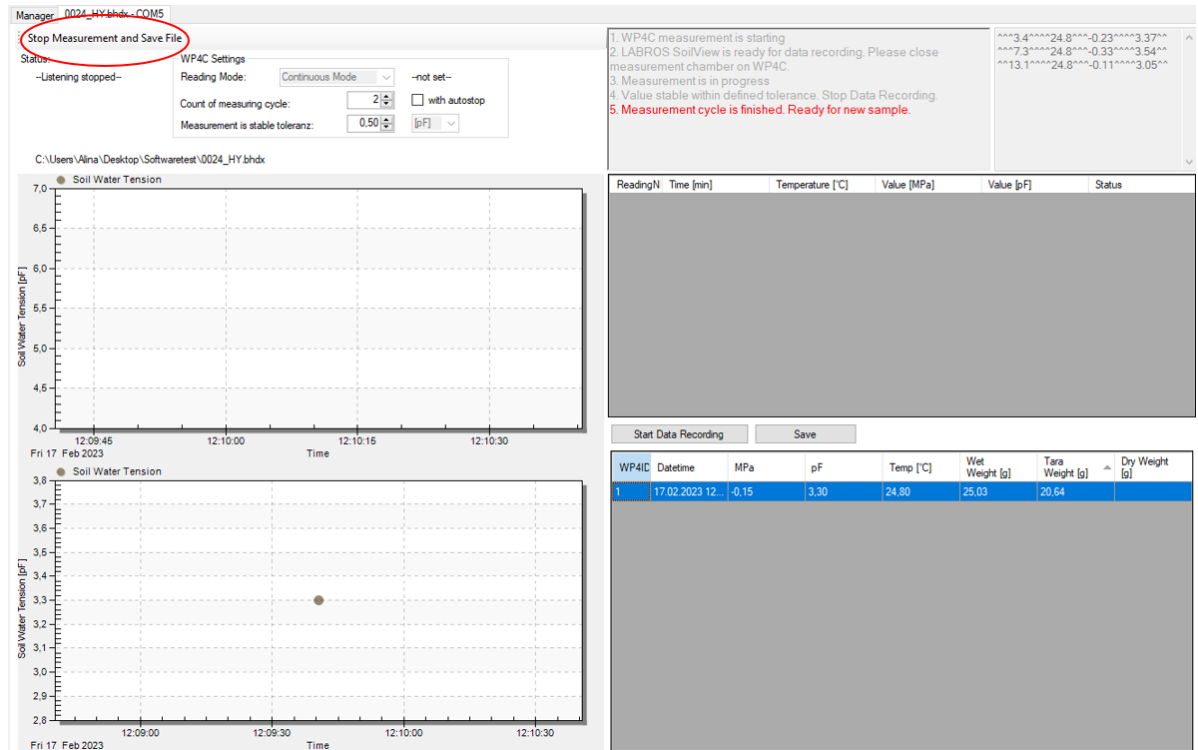

Figure 7 Stop Measurement and Save
10. The next sample may then be measured by inserting a new sample, pressing Start Data Recording, and following step 5—9. When all samples referring to the \*.bhdX file are measured, select the Stop Measurement and Save File button, see Figure 7. All values in the lower table are entered into the \*.bhdX file.